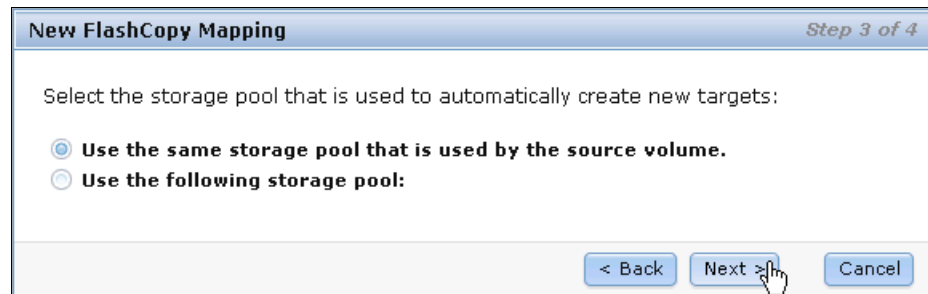

Figure 10-21 Using the same storage pool with the source volume
5. You can choose from which storage pool you want to create your target volume. As shown in Figure 10-21, you can select the same storage pool that is used by the source volume or a different pool. Click **Next** to continue.